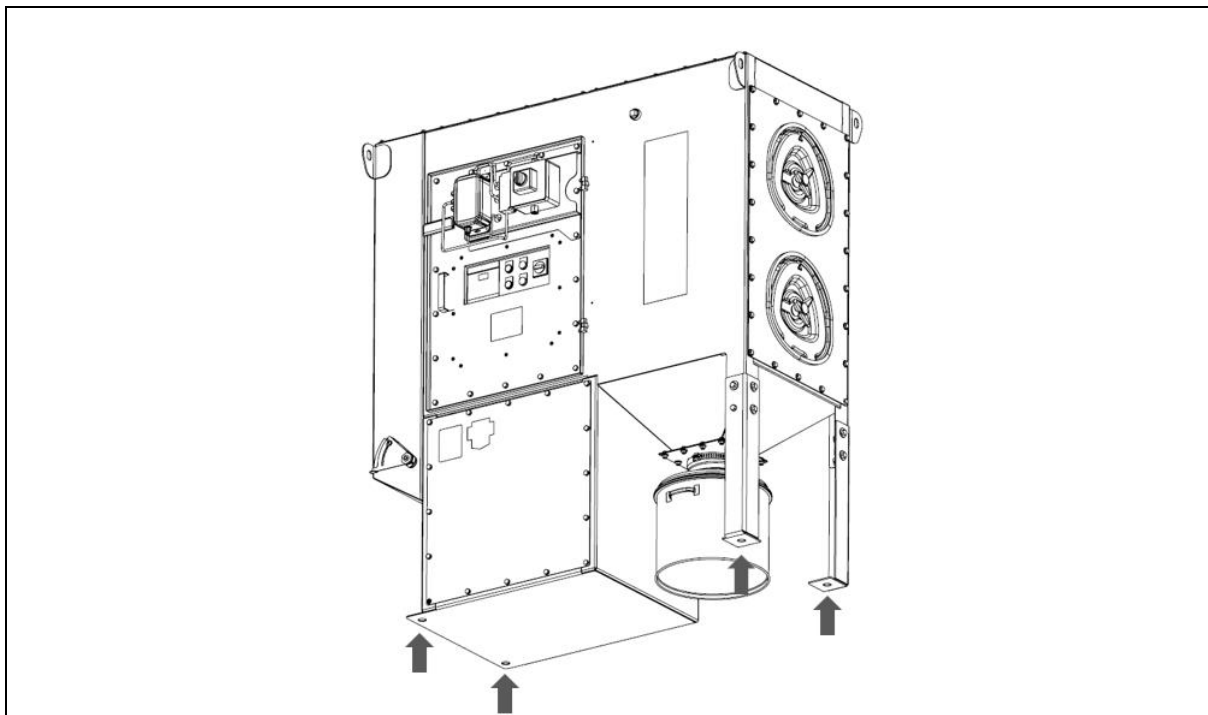

Figure 3: Anchor bolt hole locations
3. Secure the collector to the foundation anchor bolts (4 located in the fan box and 2 in the legs, see figure 3).